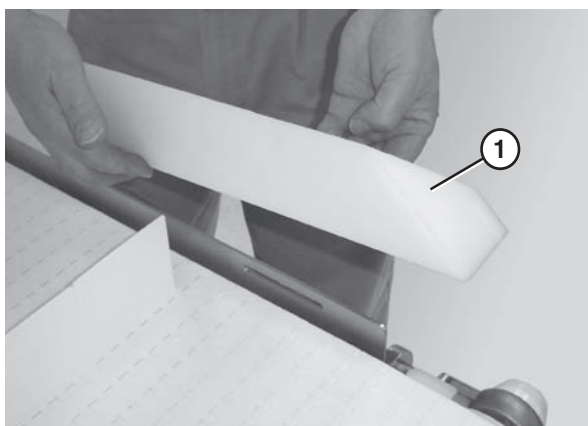

Figure 47
2. Remove the guide (**Figure 47, item 1**).